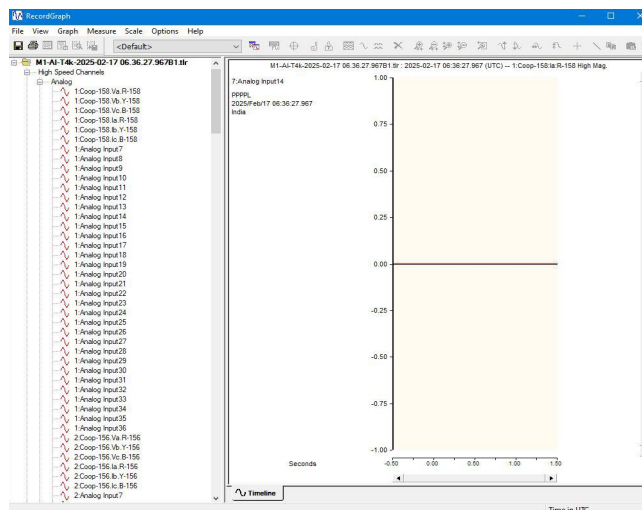

Figure 15.5: Coop combined record shows in RecordGraph
1. For the GRT initiator (publisher), create a dataset with the GRT output attributes (stVal, q, t) from the Records.GRTGGIO1.ISCSO1 data object (Figure 15.5).